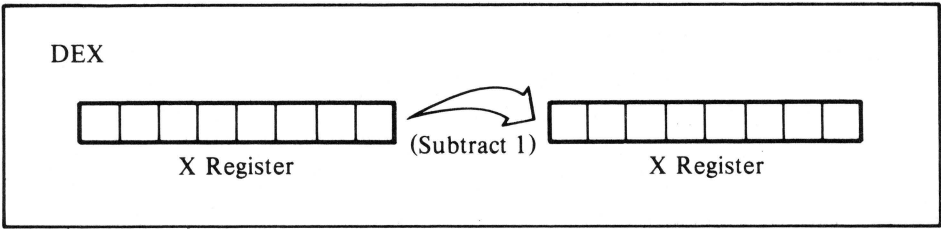

Figure 9-5. Decrement X register quantity
- **DEX** — Decrements the quantity in the X register (see Figure 9-5).